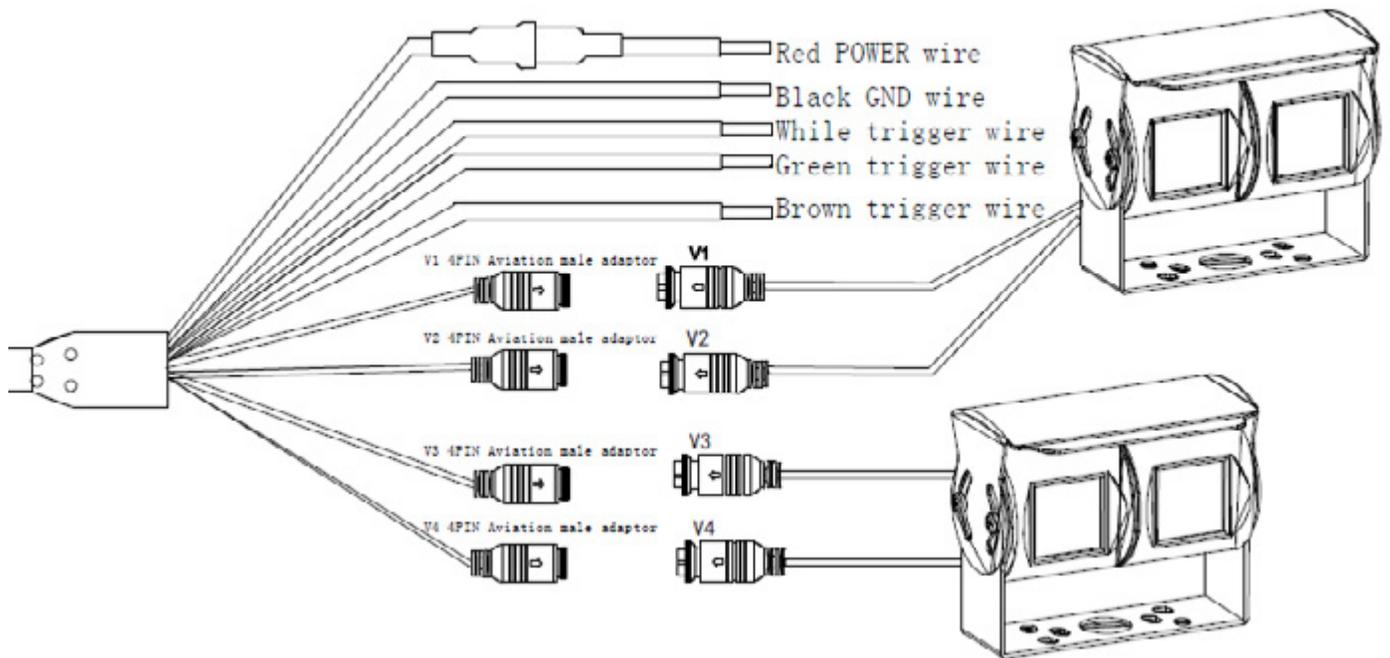

Figure 3
3. The viewing configuration in Figure 3. will display when the white trigger wire receives power. When the trigger wire loses power, the display will return to the previous viewing configuration.